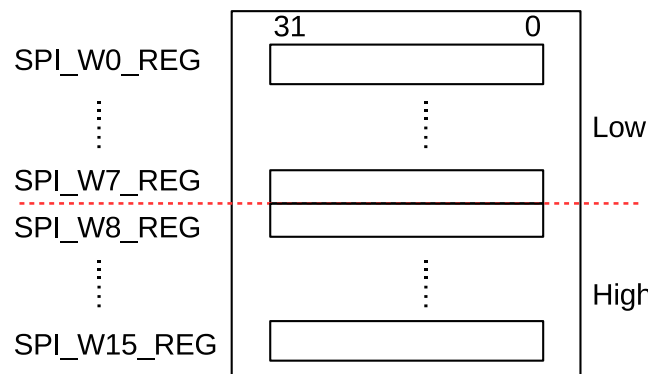

Figure 30-2. Data Buffer Used in CPU-Controlled Transfer
GP-SPI provides 16 x 32-bit data buffers, i.e., `SPI_W0_REG` ~ `SPI_W15_REG`, see Figure 30-2. CPU-controlled transfer indicates the transfer, in which the data to send is from GP-SPI data buffer and the received data is stored to GP-SPI data buffer. In such transfer, every single transaction needs to be triggered by the CPU, after its related registers are configured. For such reason, the CPU-controlled transfer is always single transfers (consisting of only one transaction). CPU-controlled transfer supports full-duplex communication and half-duplex communication.
- **SPI Buffer:** `SPI_W0_REG ~ SPI_W15_REG`, see Figure 30-2. The data transferred in CPU-controlled mode is prepared in this buffer.